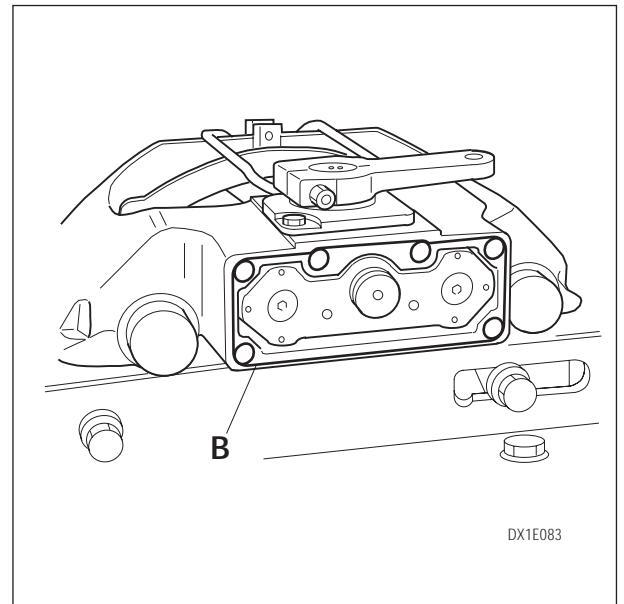

Fig. 3-51
**Follow diagram B when applying sealant DXSK 0003 to the end section of caliper (with or without seal). (Fig. 3-51)**